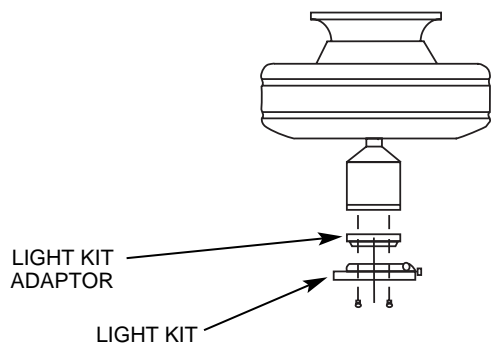

FIGURE 10
B. Remove the screws and rubber bumpers from the motor hub. Insert a mounting screw (provided) in hole in blade bracket. Use a screwdriver to hold in place. Align blade holes with mounting holes in hub by turning screw and readjusting blade bracket until screw mates with threaded hole in hub. Do not tighten until both screws have been put in blade bracket. Repeat for all blades. See Figure 10.
NOTE: Some Hunter fans require a special adaptor plate between the switch housing and the light kit. This plate is provided with those fans which need it. It should be installed as shown in Figure 10. If the switch housing on your fan is 3¼" diameter or less you do not need the adaptor, mount the light kit directly to the switch housing.